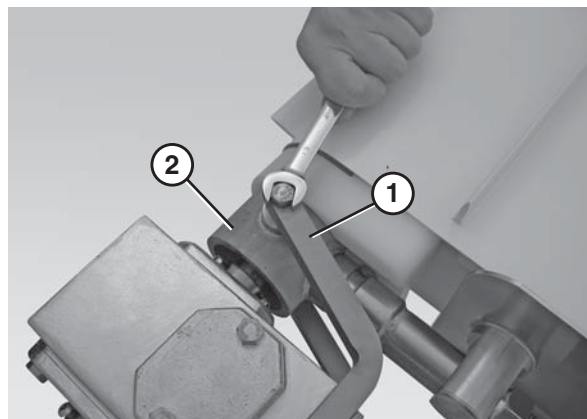

Figure 17
3. Attach the vertical drive bent bars (Figure 17, item 1) to the motor mounting bracket (Figure 17, item 2).